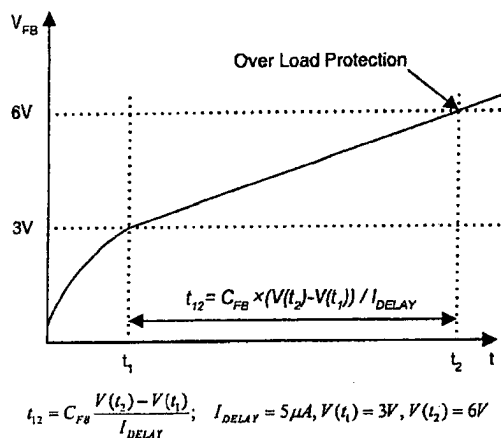

Figure 6. Over Load Protection (OLP)
4.1 Over Load Protection (OLP): Overload is defined as the load current exceeding a pre-set level due to an unexpected event. In this situation, the protection circuit should be activated in order to protect the SMPS. However, even when the SMPS is operating normally, the Over Load Protection (OLP) circuit can be activated during the load transition. In order to avoid this undesired operation, the OLP circuit is designed to be activated after a specified time to determine whether it is a transient situation or an overload situation. In conjunction with the I_{pk} current limit pin (if used) the current mode feedback path would limit the current in the Sense FET when the maximum PWM duty cycle is attained. If the output consumes more than this maximum power, the output voltage (V_o) decreases below its nominal voltage. This reduces the current through the optocoupler LED, which also reduces the optocoupler transistor current, thus increasing the feedback voltage (V_{FB}). If V_{FB} exceeds 3V, the feedback input diode is blocked and the $5\mu A$ current source (I_{DELAY}) starts to slowly charge C_{fb} up to V_{cc} . In this condition, V_{FB} increases until it reaches 6V, when the switching operation is terminated as shown in Figure 6. The shutdown delay time is the time required to charge C_{fb} from 3V to 6V with $5\mu A$ current source.